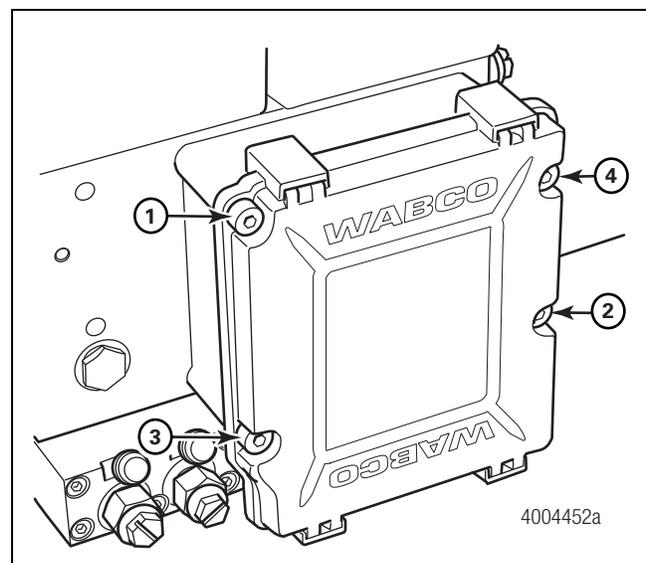

Figure 4.23
3. Use a 4 mm Allen wrench to tighten the four mounting screws that attach the ECU to the HCU. Tighten to 14 in-lb (1.5 N•m). Do not exceed this torque. The metal sleeves on the ECU housing must rest flat on the body of the HCU. Tighten the screws using the correct sequence. Figure 4.23. 🔩